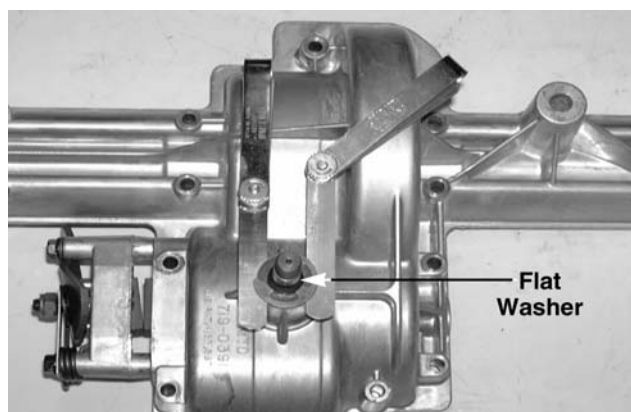

Figure 9-37
- Place two feeler gauges between the top of the upper housing and the flat washer on the input shaft. See Figure 9-37.